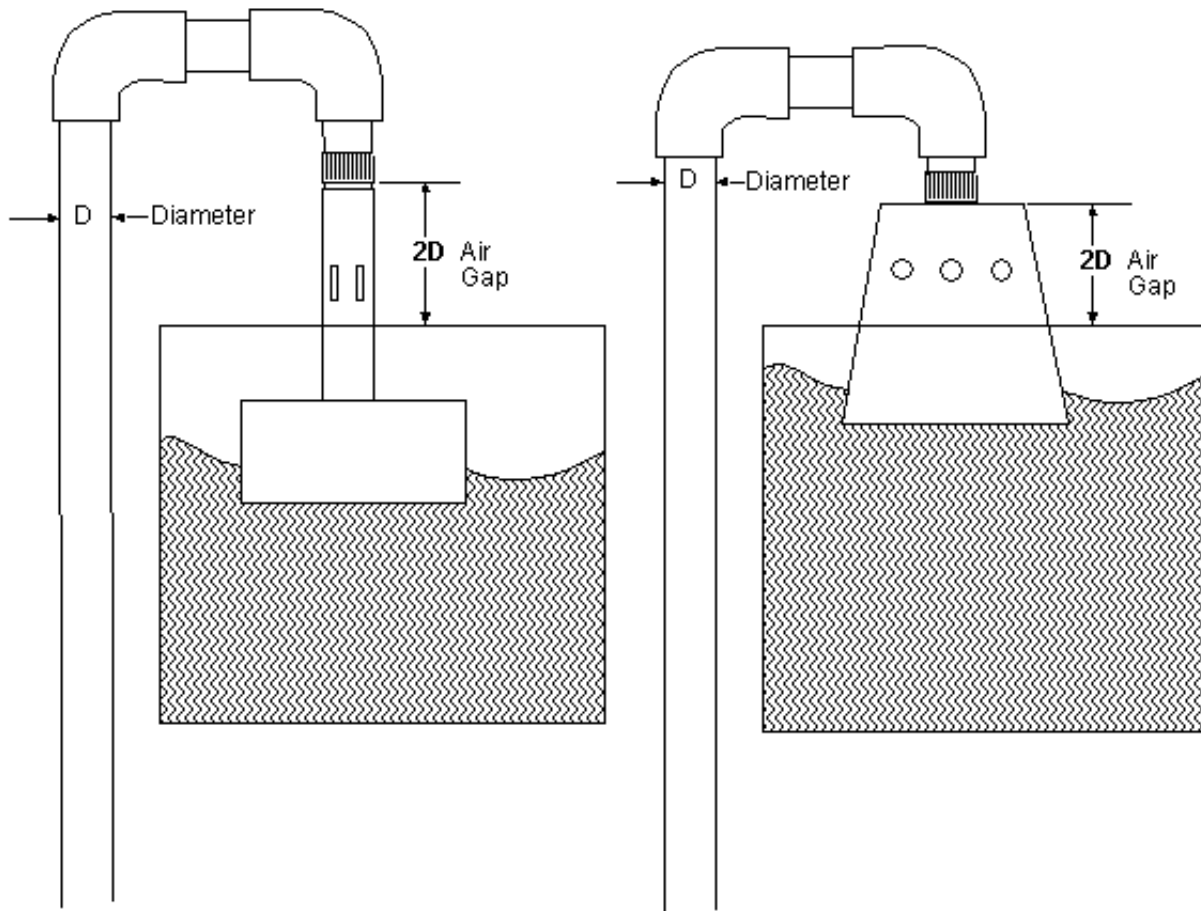

Figure 6a. Air Gap for Troughs and Tanks with Overflow Holes or Lines
1. Single Overflow (Figures 6a and 6b)
If an overflow hole or line is used (rather than overflowing over the rim of the water trough or tank), it shall be at least twice the inside diameter (2D) of the single largest supply line and the top of the overflow shall be at least that same distance (2D) below the end of the supply line(s). See Figure 6a. If small mesh screen or expanded metal is installed on the end of the overflow, it may
If the largest supply line to a water storage tank is 2 inches in diameter, then the required overflow can be either: **a)** one 4 inch diameter overflow with 12.6 sq. in. of surface area **b)** two 3 inch diameter overflows with 14.14 sq. inches of surface area **c)** four 2 inch overflows with 12.56 sq. inches of surface area or **d)** any combination of overflow sizes that total at least 12.56 sq. inches of surface area. The top of each overflow must be at least that same distance (2D) below the bottom of the supply lines (Figure 6a).